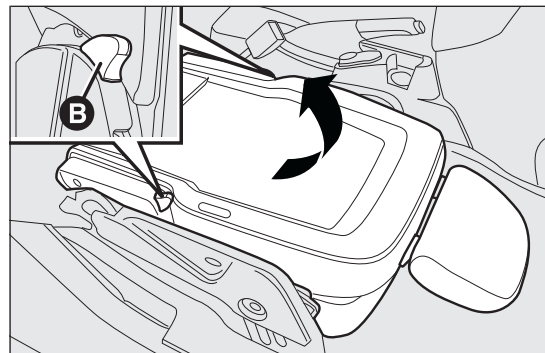

fig. 20
- ☐ operate levers B fig. 20 and further lift the seat upwards.